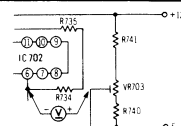
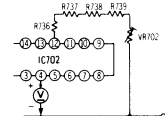
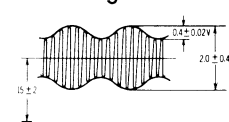

Fig. 13
Fig. 14
Fig. 16
<p>Ⓔ Capstan motor circuit adjustment</p> <p>Condition:</p> <ul style="list-style-type: none"> * Playback mode <p>Equipment:</p> <ul style="list-style-type: none"> * VTVM * Oscilloscope 	<p>A. Standard DC power supply voltage adjustment</p> <ol style="list-style-type: none"> 1. Measure the DC voltage between central point of VR703 and ⑥ terminal of IC702 as shown in fig.13. <p>Standard voltage: $0 \pm 0.05 \text{ V}$</p> <ol style="list-style-type: none"> 2. If measured voltage is not within standard, adjust VR703. <p>B. Phase lock point adjustment</p> <ol style="list-style-type: none"> 1. Measure the DC voltage between ④ terminal of IC702 and ground as shown in fig. 14. <p>Standard voltage: $5.2 \pm 0.1 \text{ V}$</p> <ol style="list-style-type: none"> 2. If measured voltage is not within standard, adjust VR702. <p>C. Position detecting signal output level adjustment</p> <ol style="list-style-type: none"> 1. Connect oscilloscope to test point (T.P. P-V). 2. Measure the peak-to-peak voltage of position detection signal of test point with the oscilloscope. 3. If the measured signal voltage is markedly different from the voltage shown in fig. 16, make the necessary adjustment with the VR701.